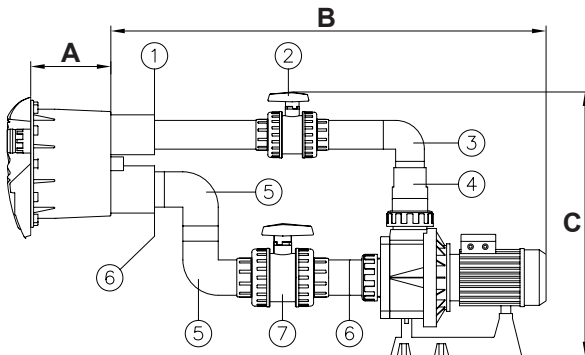

Fig. 6
- Glue the 75x63 mm. reducing bush (no.1, fig. 6) to the discharge mouth of the niche (see fig. 6).
- Glue a Ø 63mm. pipe (\*) in the reducing bush (no.1, fig. 6).
- Glue the Ø 63mm. valve (no.2, fig. 6) to the Ø 63mm. pipe (\*).
- Glue a Ø 63mm. pipe (\*) to the Ø63mm. pipe (no.2, fig. 6).
- Glue the Ø 63mm. elbow (no.3, fig. 6) to the Ø 63mm. pipe (\*).
- Glue a Ø 63mm. pipe (\*) to the elbow (no.3, fig.6).
- Glue a 90/75/63 mm. conical reducer (no.4, fig. 6) to the Ø 63mm. pipe (\*) and the Ø 90mm. connector on the pump.
- Glue the 90x75 mm. reducing bush (no.6, fig. 6) in the suction mouth of the niche (see fig. 6).
- Using a Ø 75mm. pipe (\*), glue a Ø 75mm. elbow (no.5, fig. 6) on to the reducing bush (no.6, fig. 6).
- Using a Ø 75mm. pipe (\*) join the other Ø 75mm. elbow (no.5, fig. 6) to the elbow already glued (see fig. 6).
- Glue the Ø 75mm. valve (no.7, fig. 6) to the elbow (no.5, fig. 6) using a Ø 75mm. pipe (\*) to join them.
- Glue a Ø 75mm. pipe (\*) to the valve (no.7, fig. 6).
- Glue a 90x75 mm. reducing bush (no.6, fig. 6) to the Ø 75mm. pipe (\*) and the Ø 90mm. connector on the pump.